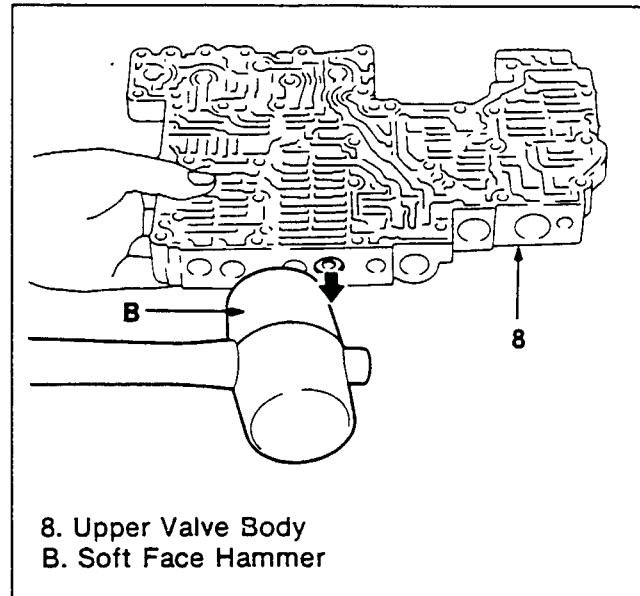

**Figure 110. Retainer Plate Removal (2)**
- Remove retainer plate (total 4 pcs) while holding the inside parts with your fingers to prevent parts from popping out (figure 110).